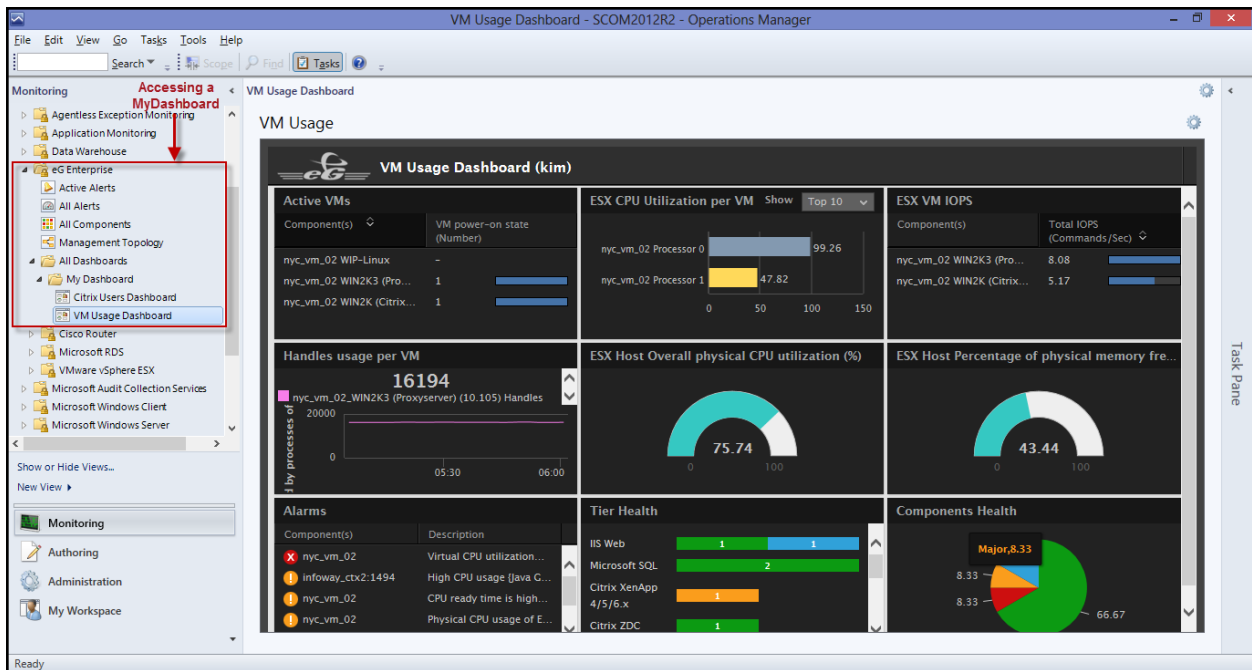

Figure 4.43: Viewing a custom MyDashboard in the SCOM console
2. Expand the **eG Enterprise** node in the left panel of the console. Then, expand the **All Dashboards** sub-node within. This will reveal the **My Dashboard** node. Expand this node to view all the MyDashboards created by or shared with the user whose credentials were used for integrating the eG manager with SCOM. To view a dashboard, click on it. The dashboard will then be displayed in the left panel (see Figure 4.43).